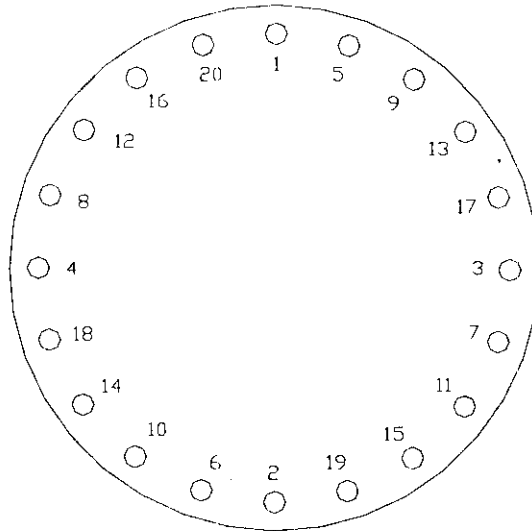

Figure 1.24 Tightening sequence for the 20 Conflat bolts.
- 1.24** On the power lead flange, number the Conflat bolt holes 1 through 20 as indicated by Figure 1.24.
- 1.26** Use a 5/16 12-point socket to tighten the 20 Conflat bolts. The tightening must be made gradually in 1/4 turn increments to a final torque of 15 ft-lbf (180 in-lbf). The tightening sequence is given by Fig. 1.24.